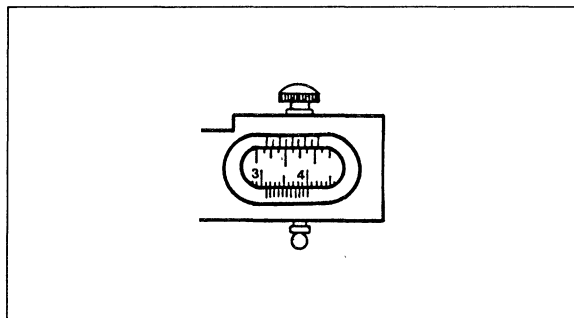

Fig. 3 ► 9.
9. Read off the vernier setting shown in fig. 3: